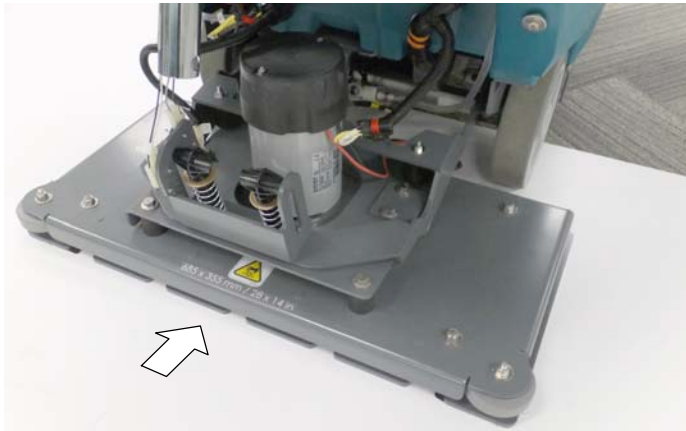

Fig. 11
12. Slide the orbital scrub head assembly under the scrub head lift bracket (Figure 11).